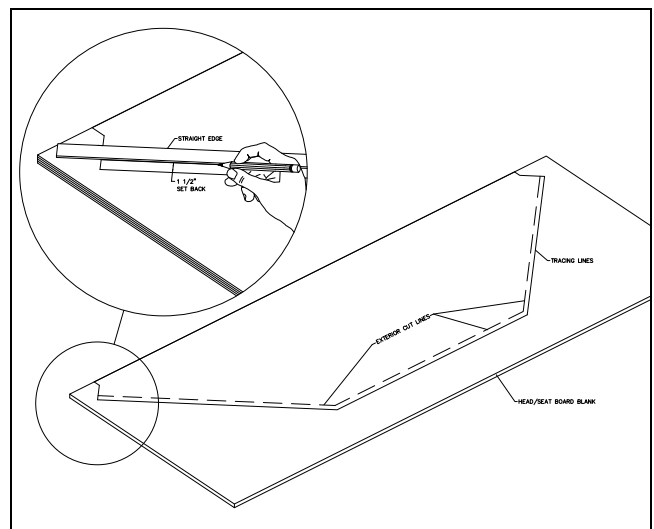

Figure 5
2. Lay head board on a flat surface with tracing lines up. To form a final cutting line, measure in 1 1/2" (38) toward interior from lines drawn when tracing exterior face of Ultrex frames. Lay out cutting lines along setback measurements on the head board to intersect with side jamb lines previously traced (side jamb/jamb extension lines are cut as traced). Cut out head board and use as a template to cut out seat board. See Figure 5.